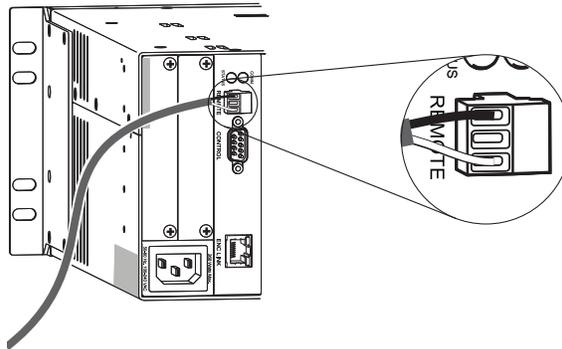

FIG. 15 Insert wires into XNNet connector on the CPU
4. Insert the two wires of the XNNet link cable from the device into the Remote connector leaving the center slot empty (FIG. 15).